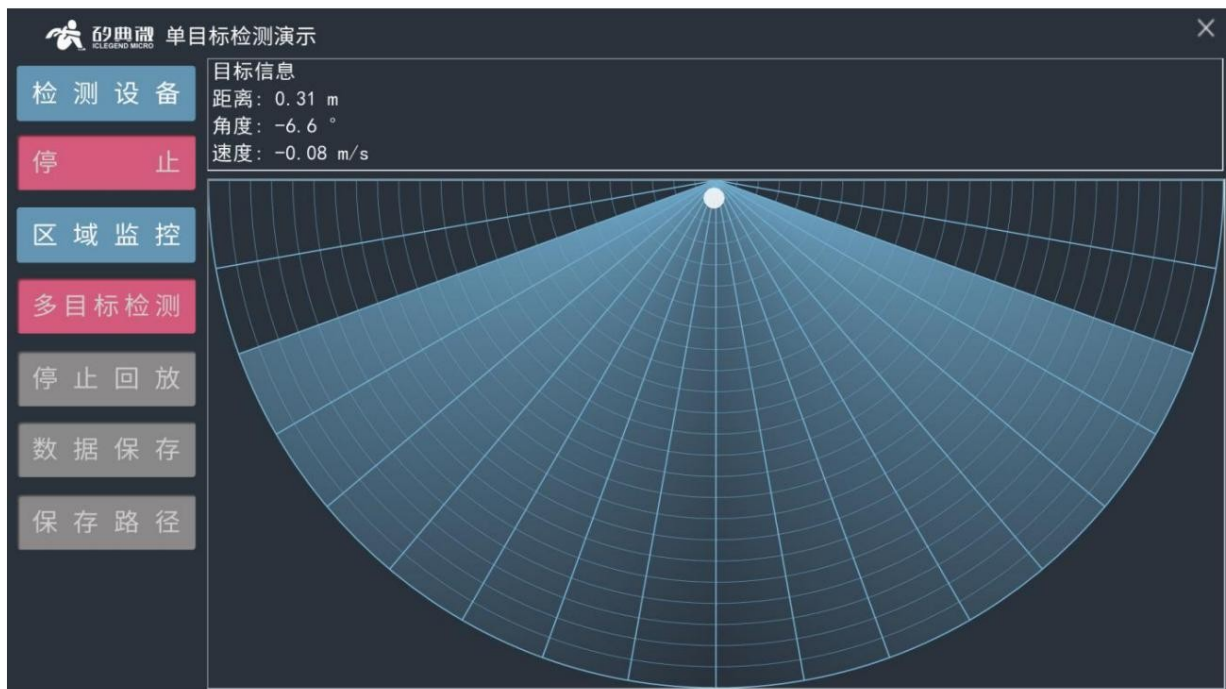

Figure 2.2.2 Single target detection demonstration
Step 3: Click "Start/Stop" to switch positions, and the target's position relative to the radar will be displayed, as shown in Figure 2.2.2: